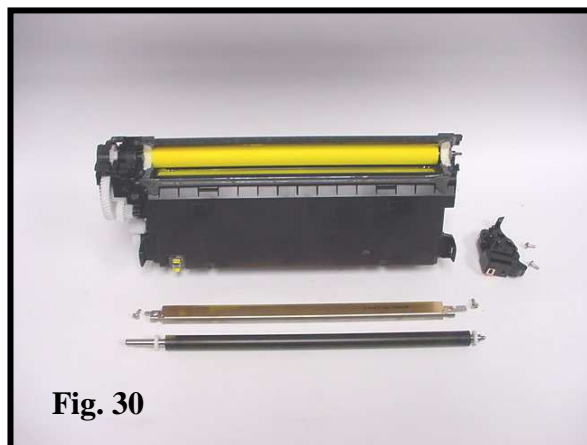

Fig. 30
30. Reassemble the toner hopper in reverse order (Fig. 30).